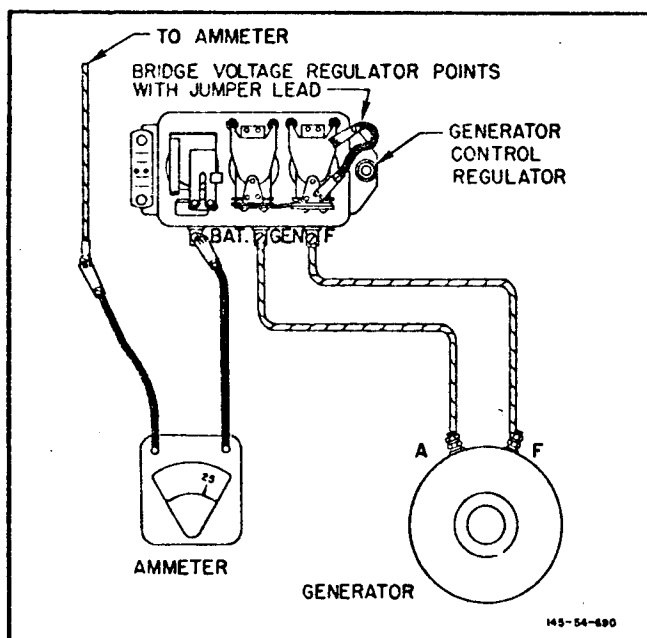

Figure 49 - TEST SETUP FOR ADJUSTING CURRENT REGULATOR RELAY
1. Connect an ammeter to regulator unit as shown in figure 49.